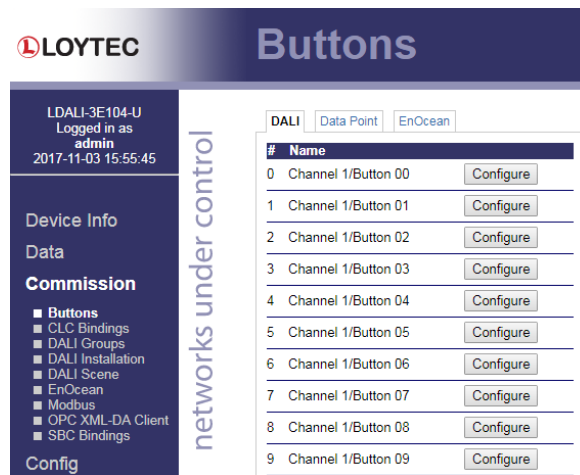
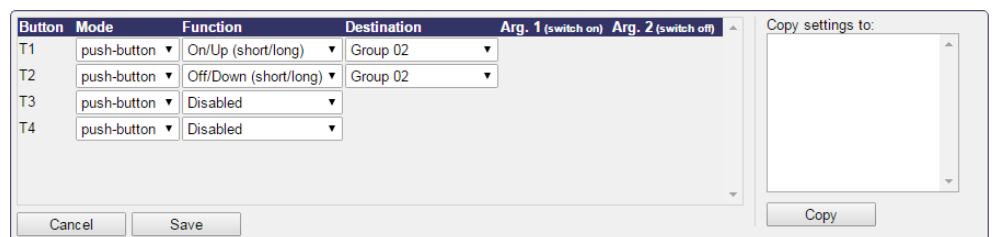

Figure 44: Button Functions.
Figure 45: Configure DALI button functions.
1. On the **Buttons** page, stay on the **DALI** tab (see Figure 44) and click on the **Configure** button next to the button device that is to be configured. The dialog shown in Figure 45 appears.